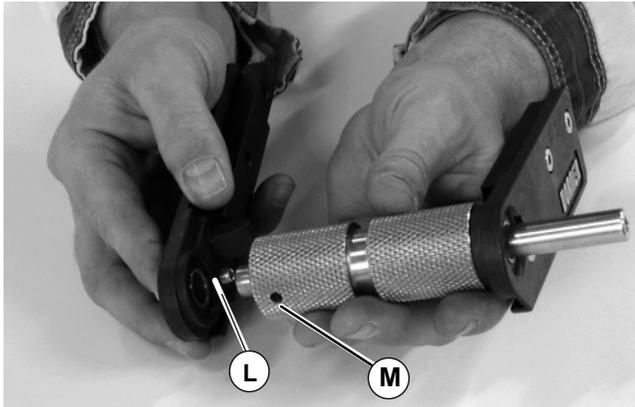
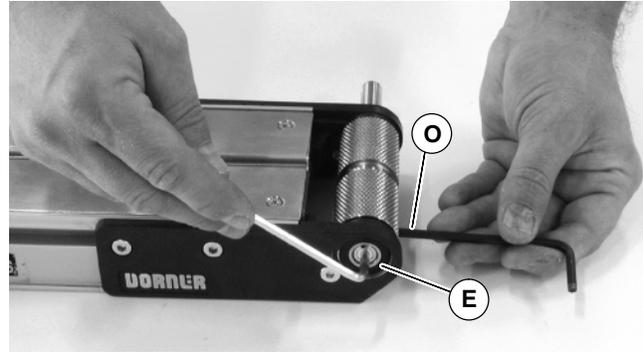

Figure 11
Figure 14
12. With bearing installed in head plate, press bearing onto non-drive shaft (L of Figure 11).
15. With 4mm hex key wrench, tighten pulley taper screw (E) to 35 in-lbs (4 Nm). Steady pulley with second hex key wrench (O of Figure 14) inserted into pulley hole (M of Figure 11).